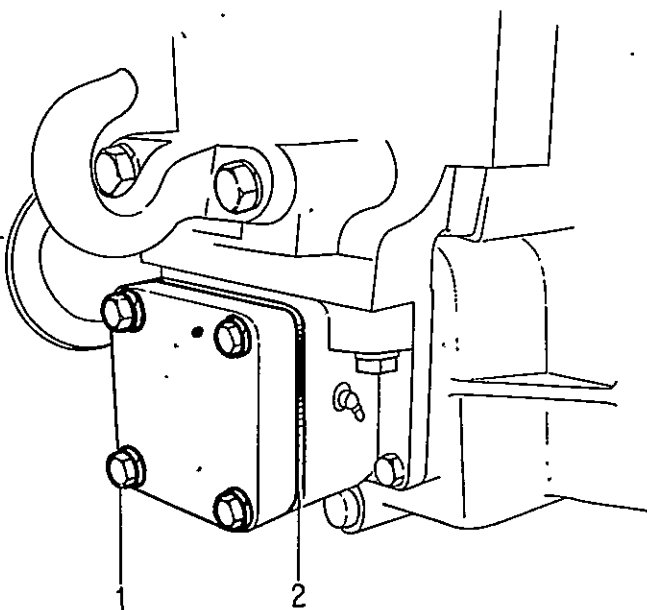

Fig. 4-21
4. In the using couse, the clearance between the pivot pin fixing flange and the cover of the flange may increase as a result of the wear. This would cause the appearance of the shock load. So the clearance must be adjusted in time. To adjust, slacken the bolt 1 and withdraw the suitable number of the adjusting shims 2 to make the front axle swing freely but there is no obvious axial clearance. (Fig. 4-21)